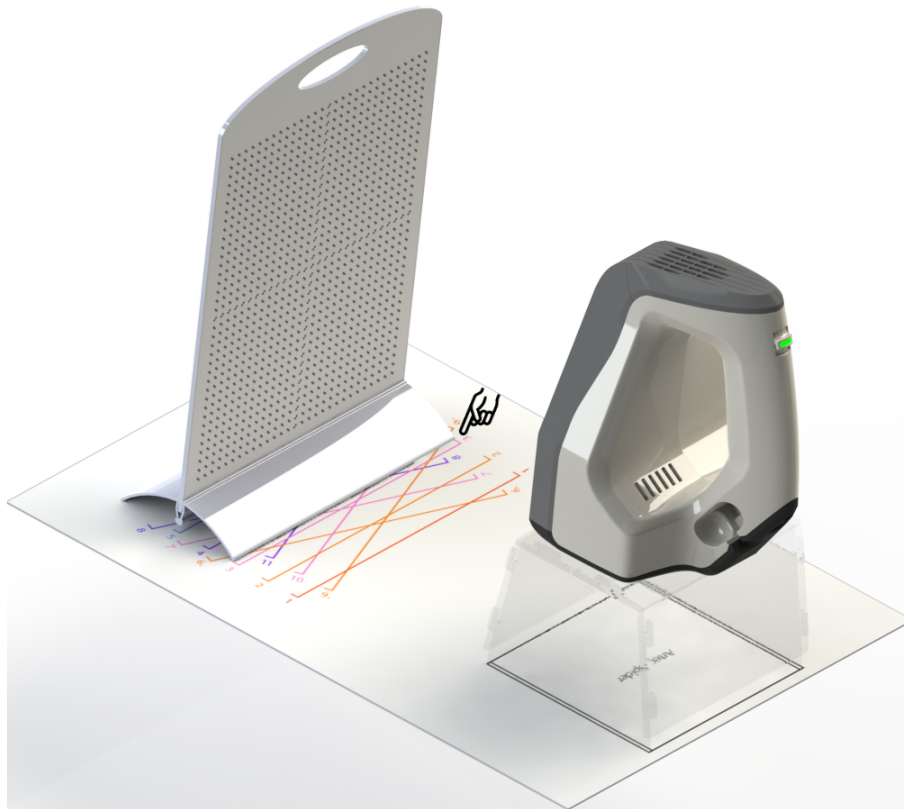

Figure 138: Calibration rig, pattern and scanner stand with Artec Spider.
4. Set the calibration rig on the pattern, turning its marker side toward the scanner as Figure 138 shows.